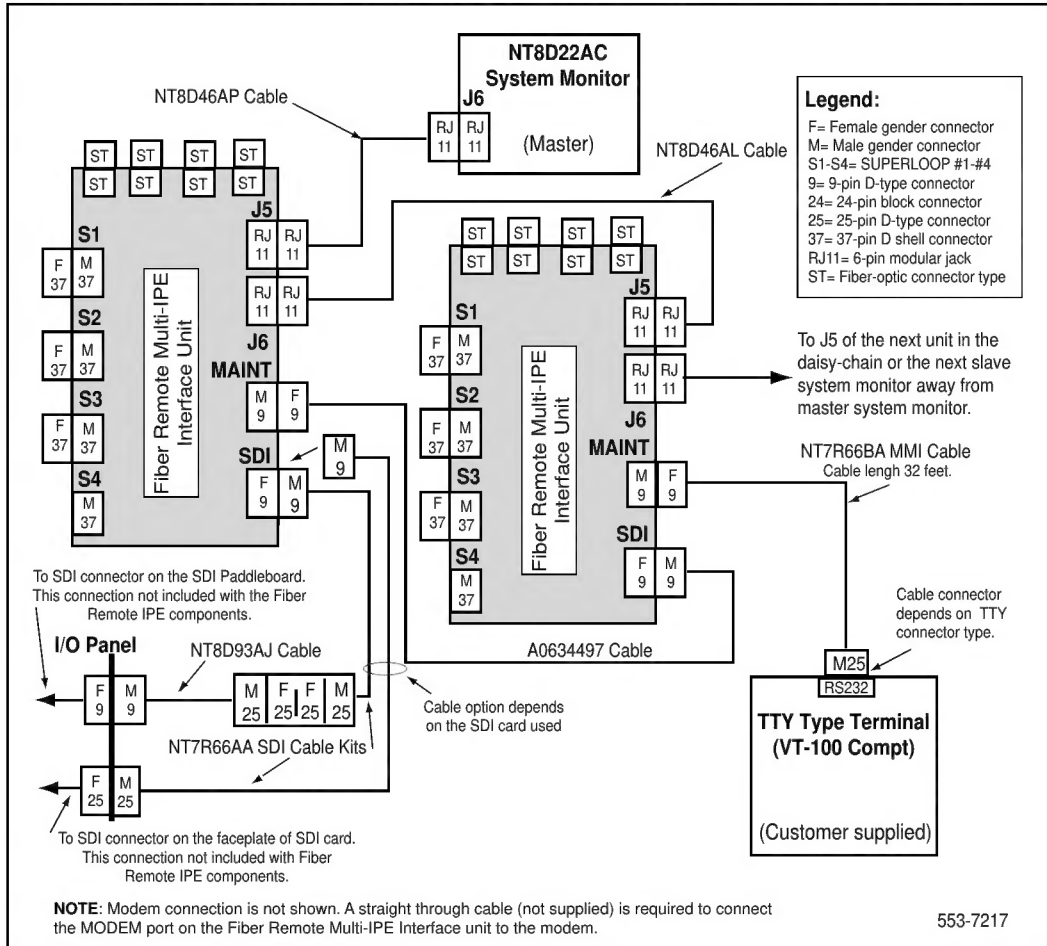

Figure 17
- **Figure 17** shows the Remote IPE site with two Remote IPE Modules: